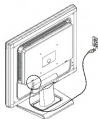

Figure 1-5
1. Connect the power cord to the LCD Monitor. (See Fig. 1-5)